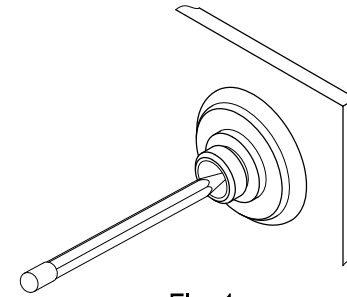

Fig. 1
- Step 1. Locate position on the wall and mark outline of cover plate on the wall (fig. 1).
- Step 2. Locate wall bracket in the center of outline. Mark location of the mounting screw (fig.1) and drill holes at the marked location.